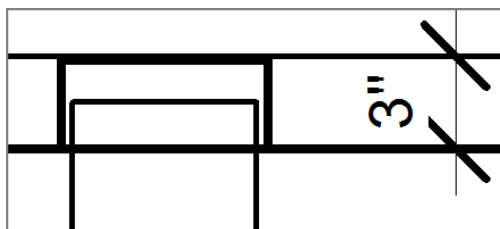

FIGURE 12.62: Offsetting the thick lines
10. Trim the bottoms of the thick vertical lines to the 3” (75mm) horizontal line, as shown in Figure 12.62.